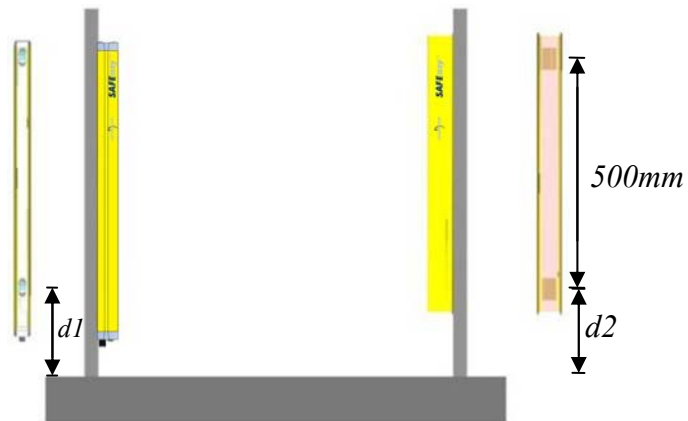

Fig. 16
- Fix the plate to the support according to the following criteria (Fig. 16).